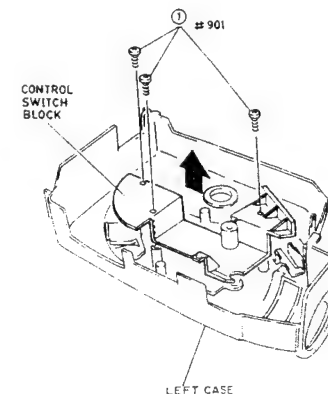

Fig. 2-26
- 1) Remove three (3) screws holding the control switch block. (See Fig. 2-26)